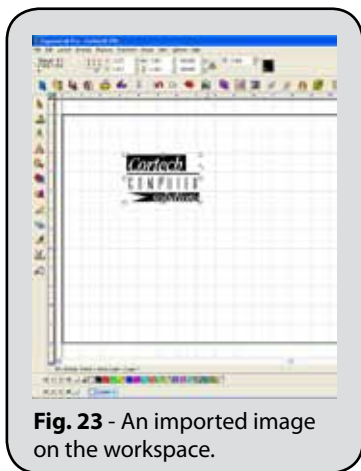

Fig. 23 - An imported image on the workspace.
4. Click on the workspace to place the imported file (Fig. 23).